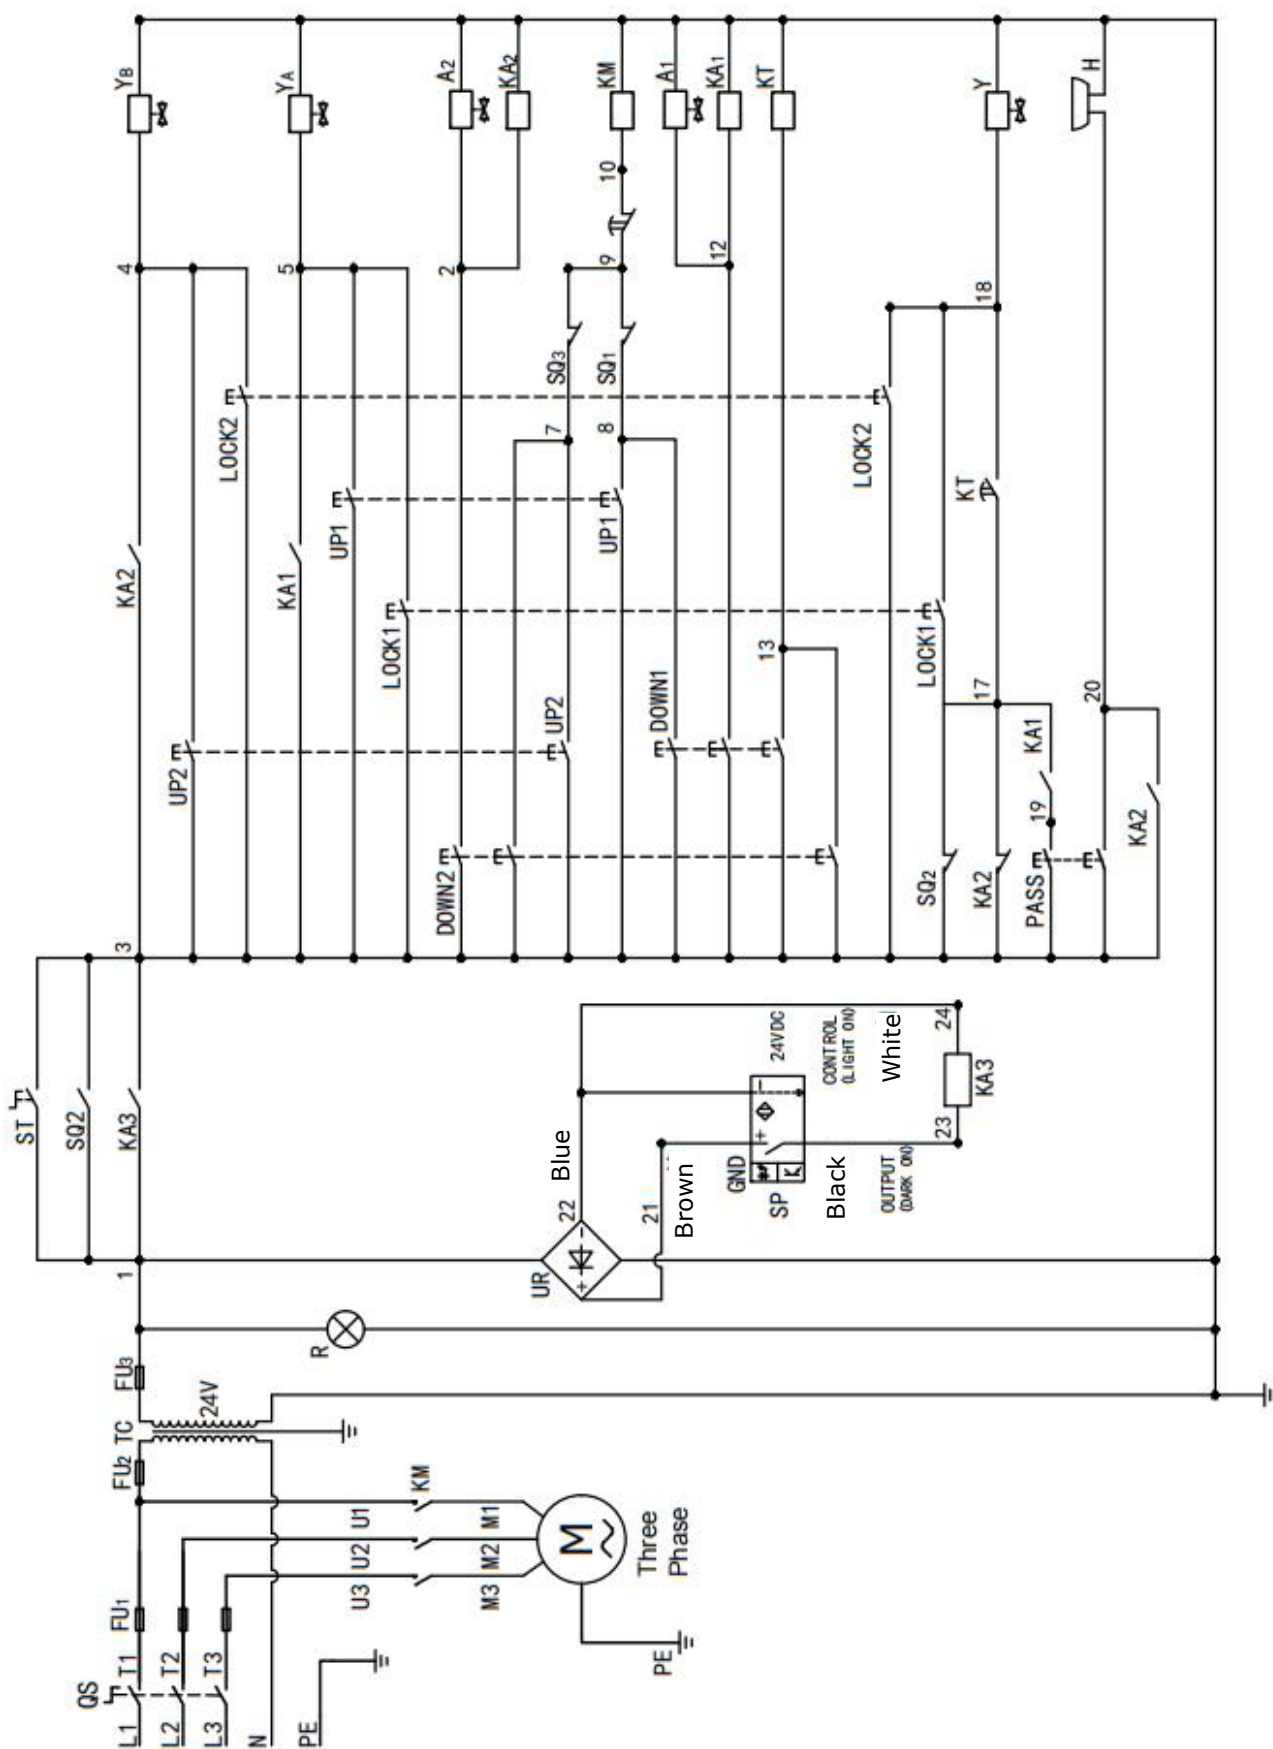

Fig. 19
1.2 Circuit Diagram (See Fig. 19)